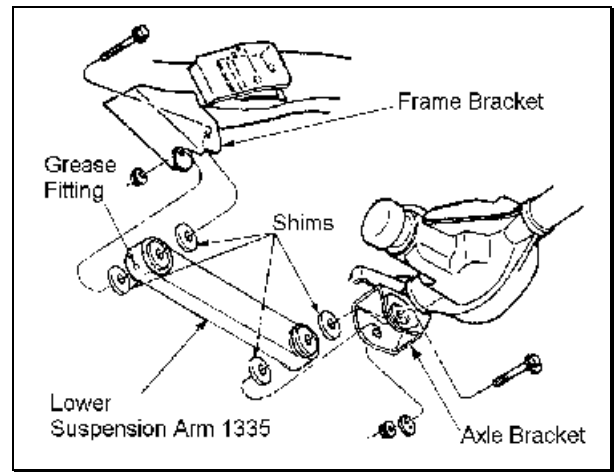

Figure 5
5. ≤ Install a new Rancho Lower Suspension Arm, along with four shims from kit 860070, to the frame and axle brackets. See figure 5. Use original hardware but do not tighten.